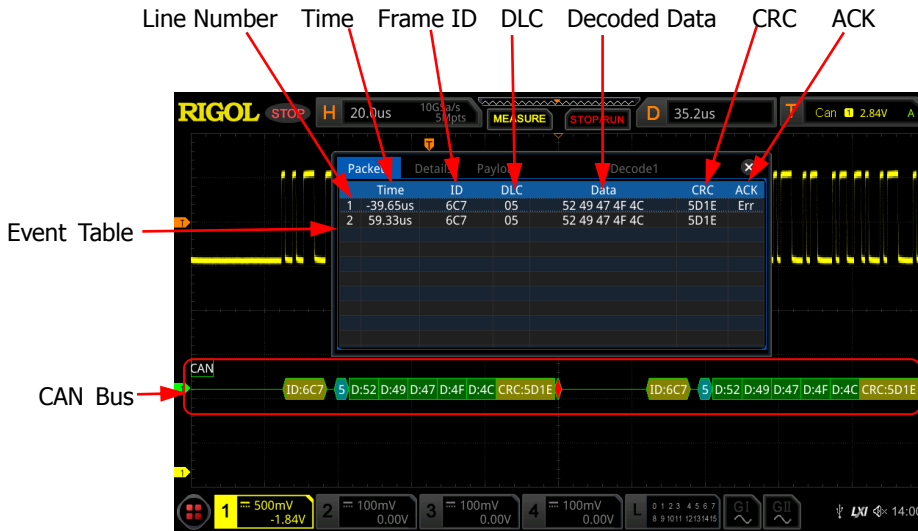

Figure 12-11 CAN Decoding Event Table
- Open or close the event table: Press **Event Table** continuously to enable or disable the event table. When you enable the event table, the following figure is displayed, as shown in Figure 12-11. You can also enable the touch screen to tap the icon  at the upper-right corner of the table to close the event table.